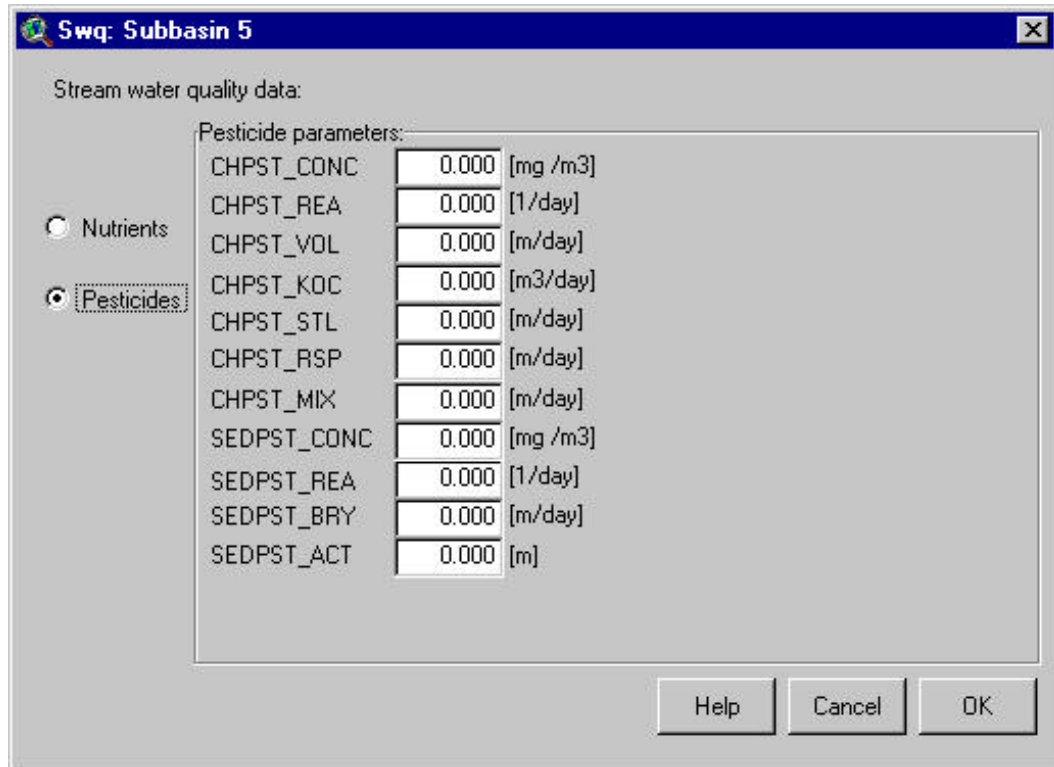

Figure 12.90
2. When the dialog box appears, the stream nutrient water quality parameters are shown. To display the stream pesticide water quality parameters (Figure 12.90), click the radio button adjacent to **Pesticides**. The radio buttons